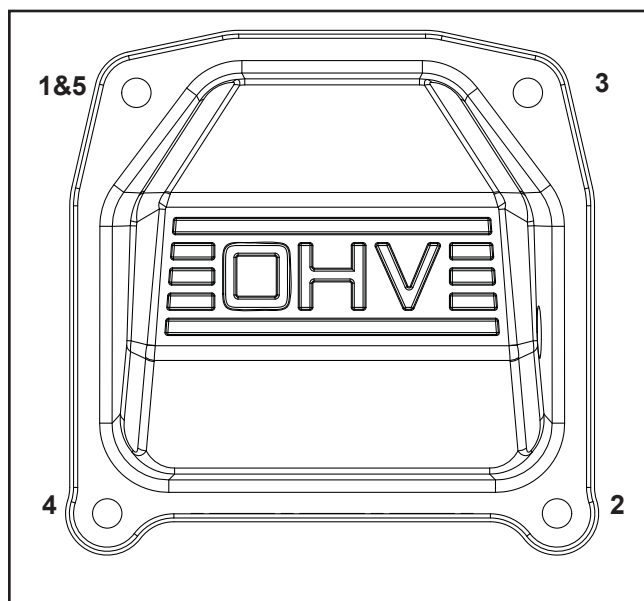

**Figure 10-54. Apply RTV to Valve Covers.**
2. Apply a 1.5 mm (1/16 in.) bead of sealant to the valve cover as shown in Figure 10-54.